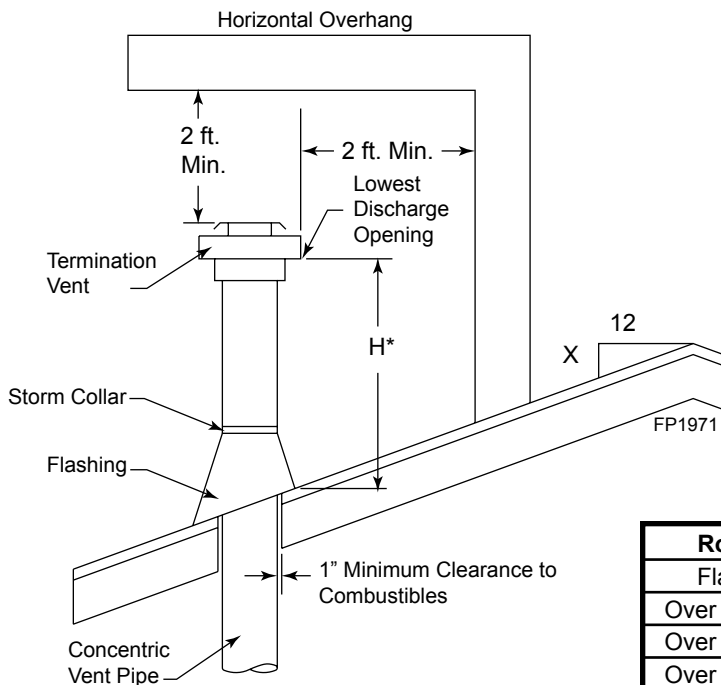

Figure 44 - Minimum Chimney Clearance
10. Add additional vent lengths for proper height. Figure 44